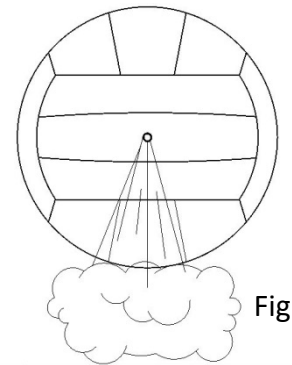

Fig. 2
**Step 6:** Using a ball inflation needle, carefully let the air out of the volleyball that you wish to mount. (Fig. 2)